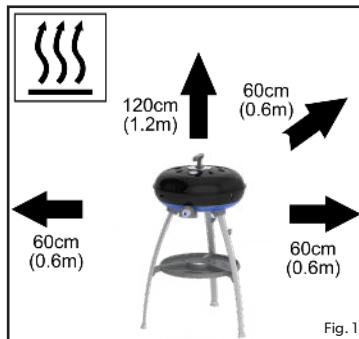

Fig. 1
- This appliance must be kept away from flammable materials during use. Minimum safe distances are: Above the appliance 120cm. At the rear and sides 60cm. (fig 1)